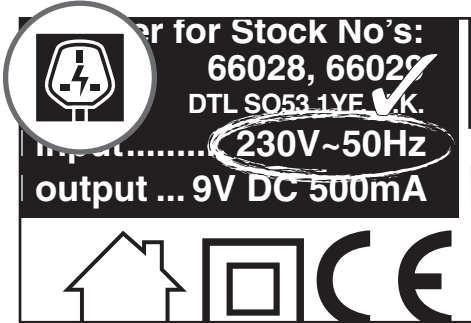

FIG.1
⑥ 230V AC mains charging adaptor.
⑦ 12V DC in-car adaptor charger.
8.1 POWER SUPPLY – FIG. 1